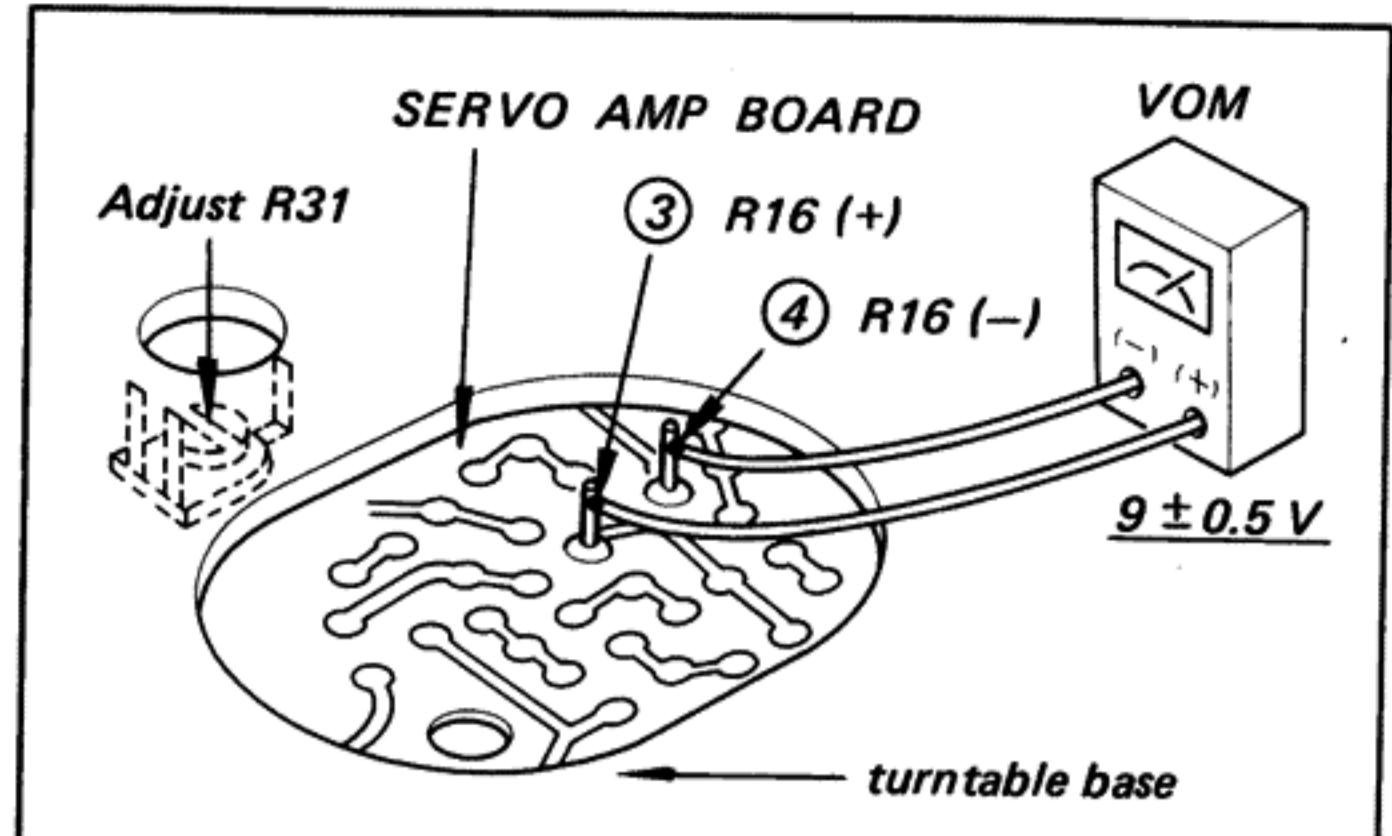

Fig. 3-9. Lamp brightness adjustment when opening shutter completely
3. Connect the VOM across R16 ③ and ④ as shown in Fig. 3-9.
5. Adjust R31 (See Fig. 3-9) so that the VOM reads $9 \pm 0.5 \text{ V}$.